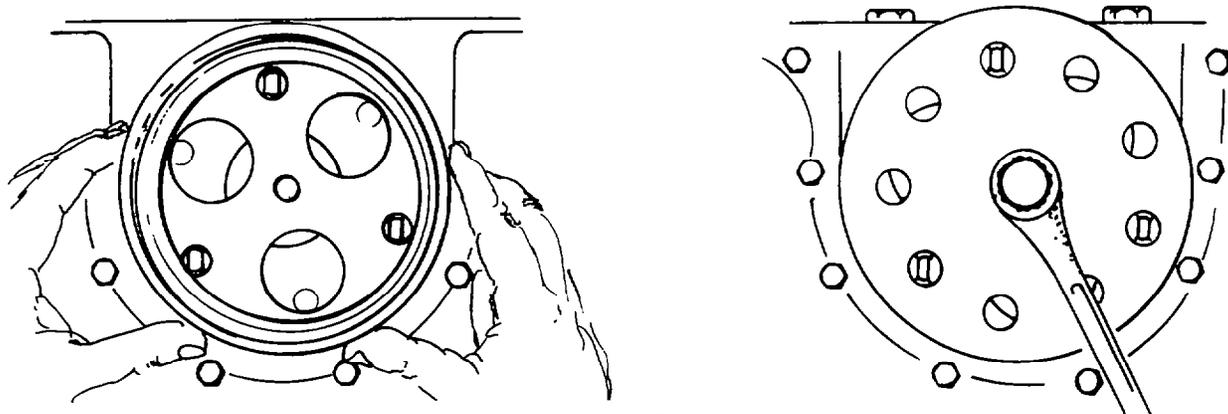

Fig. 73 — Installing Rear Main Seal
- h. Place the specially hardened flat washer over the centre bolt, then screw the bolt into the adapter plate (see fig. 73).